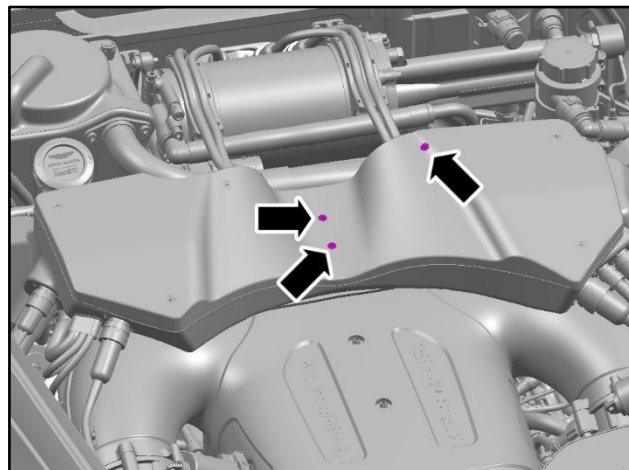

Figure 18
18. Install the three 19.05 mm screws (refer to Figure 18).